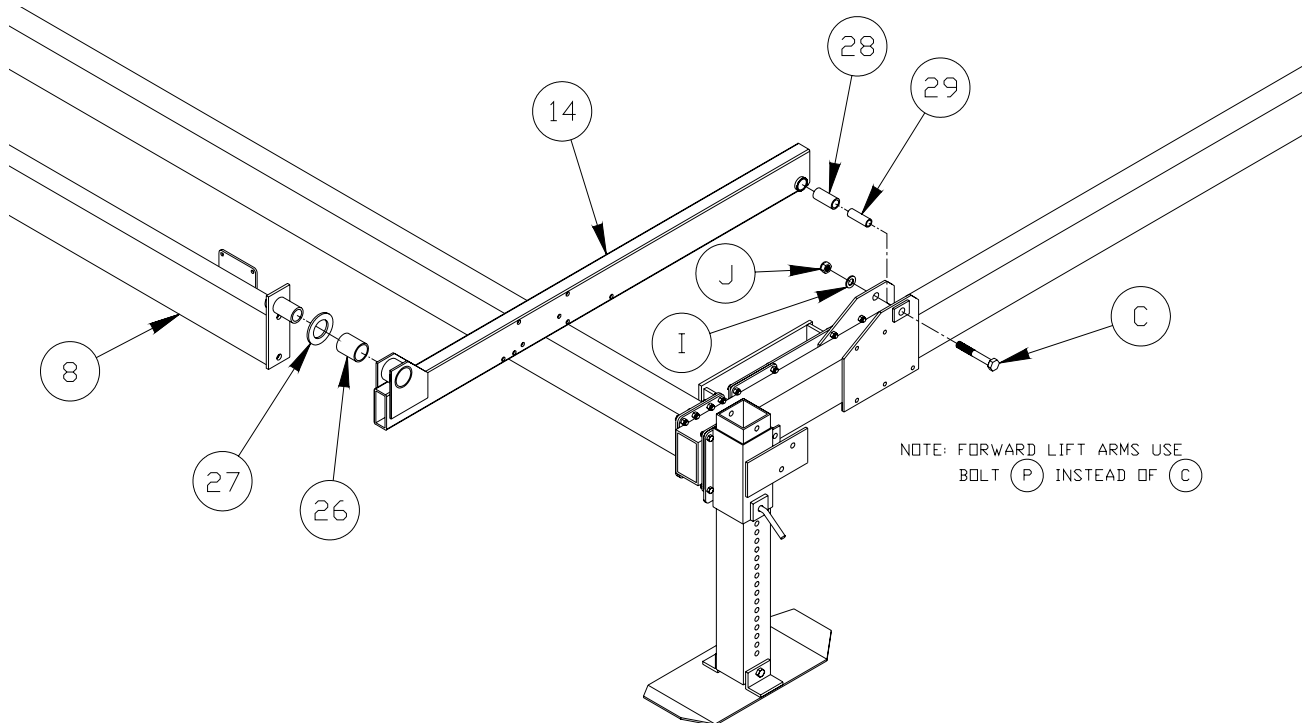
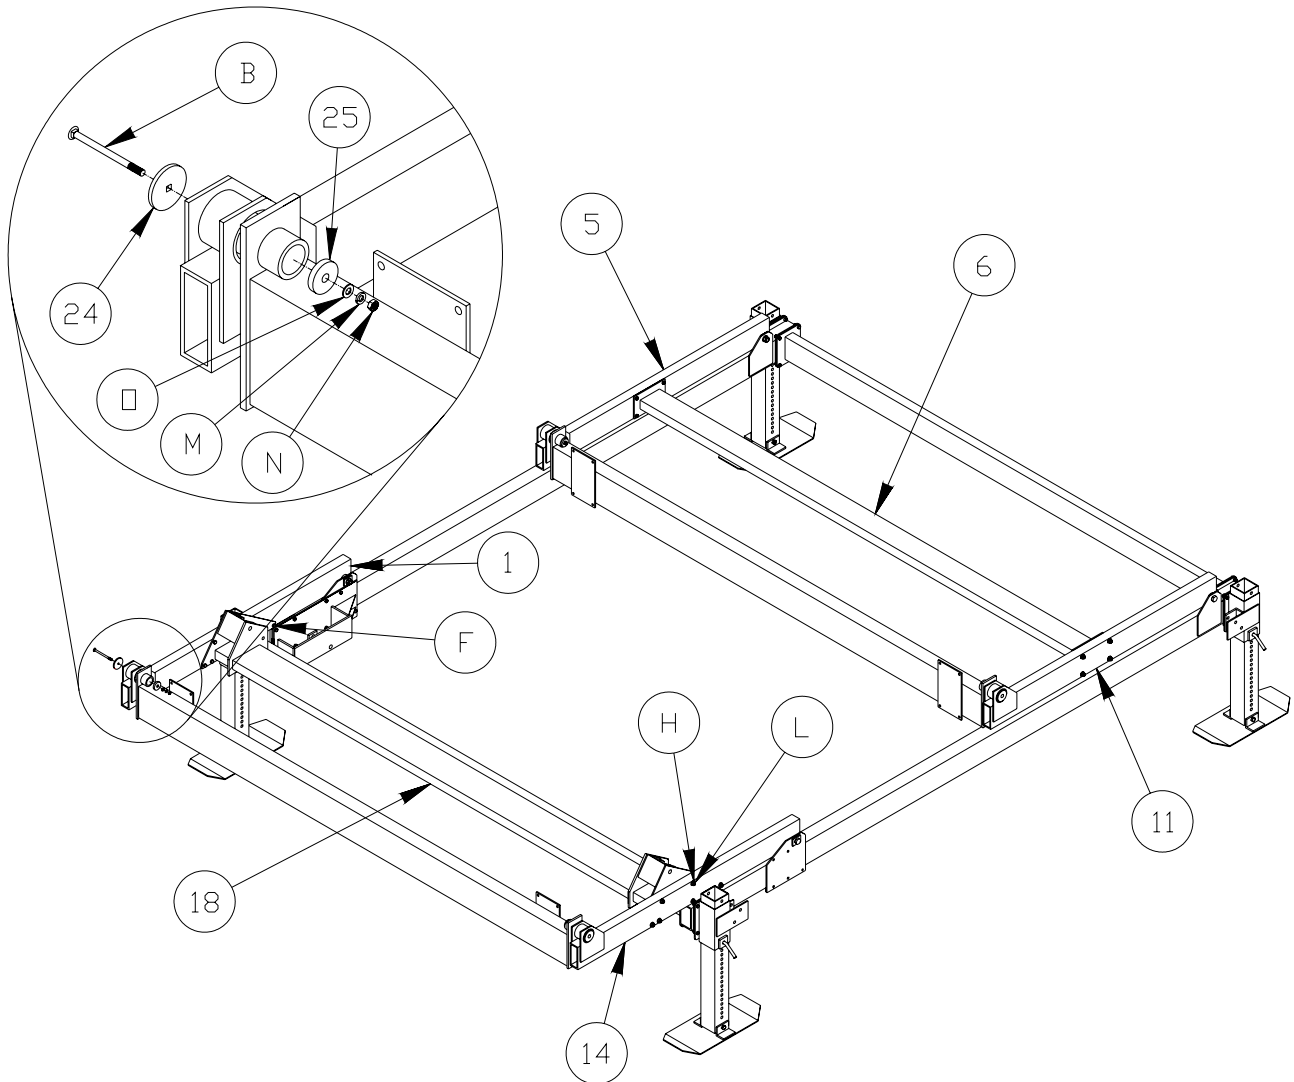

Figure 3-3.
Figure 3-4.
Refer to Figure 3-3 and Figure 3-4. There are four unique lifting arms, one for each corner. Ensure that the correct lifting arm is used in each corner.
Refer to **Figure 3-4**. when following these procedures.
6. **Refer to Figure 3-3.** The location of the center bolt, washers, and nut determines the height and angle of wood bunk. Select the hole pattern in the brackets that gives the desired bunk height and angle. The following guidelines are recommended: